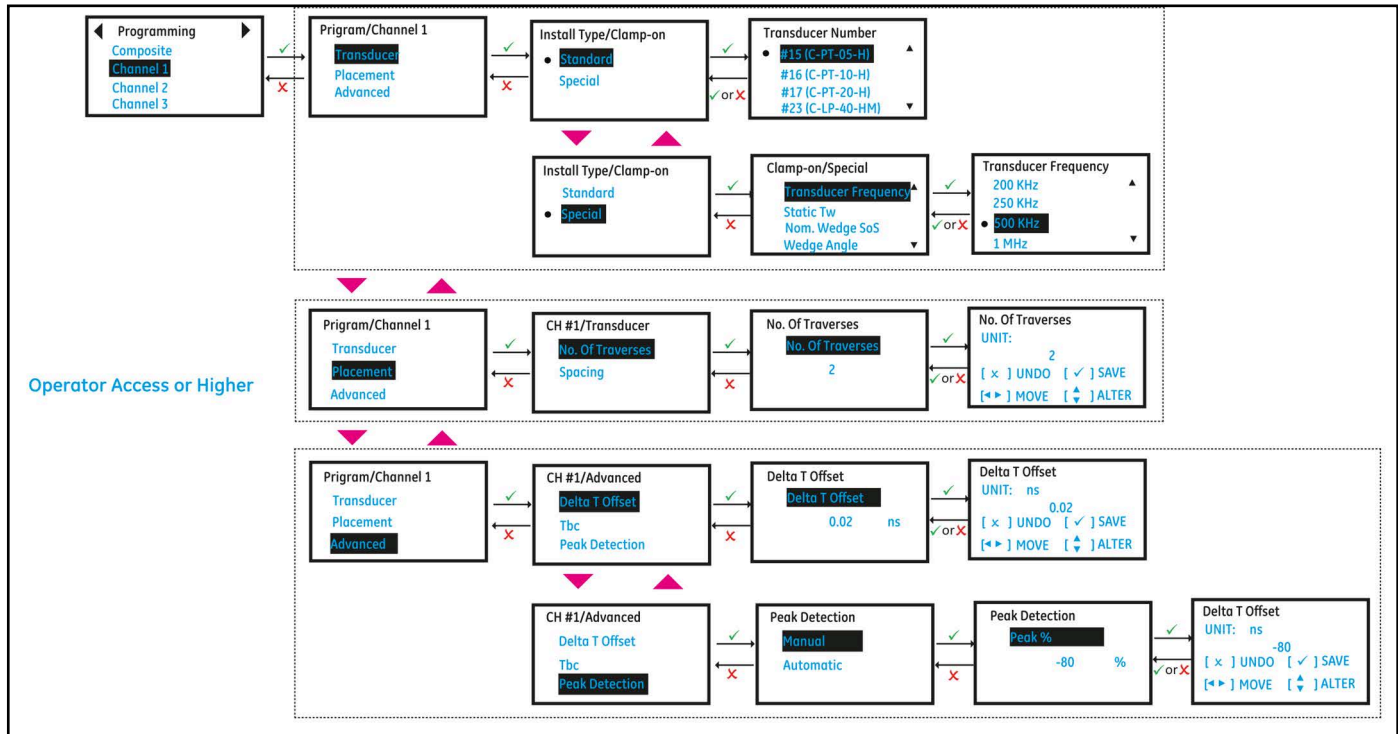

Figure 50: Channel Programming (Transducer, Placement and Advanced)
1. Refer to *Figure 50*, select **[Placement]** and press **[ENTER]**.